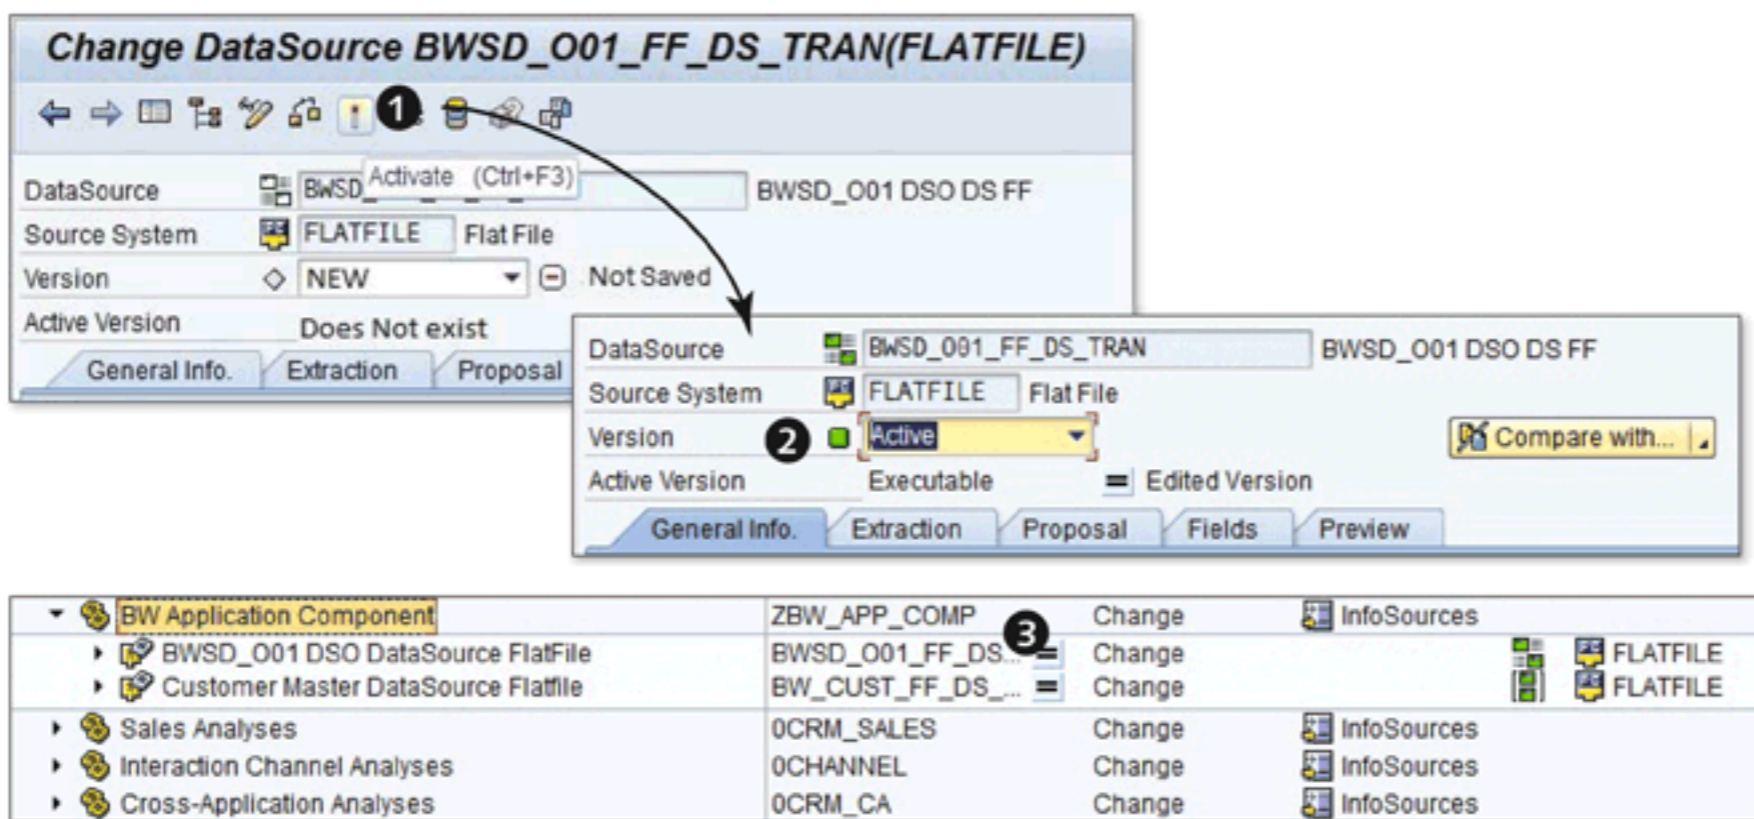

Figure 7.53 Activating DataSource
After this is completed, you can activate the DataSource by clicking on the ACTIVATE icon (1) of Figure 7.53). The activated DataSource (BWSD_001_FF_DS_TRAN) is now available under the application component ZBW_APP_COMP (3).